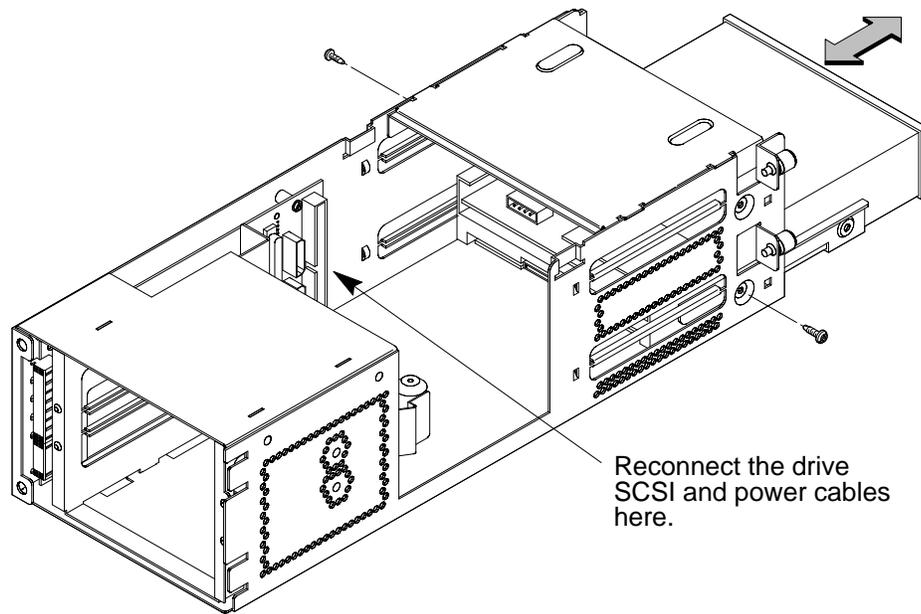

Figure B-14. Replacing Drive Screws
13. With the disk mounting bracket between the guides on each side of the Storage Assembly, slide the disk into the Storage Assembly, securing it with the two side screws. See Figure B-14. Do not over-tighten the side screws.
14. Reconnect the cabling from the back of the drive to the side of the drawer assembly. See Figure B-14.